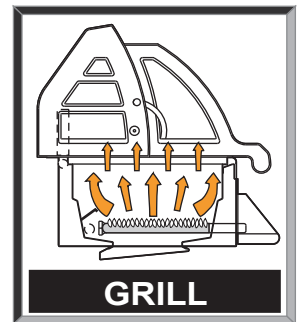

Figure 14a
- The powerful **Main burners** deliver the middle and high range of temperatures desired for traditional barbecuing. This includes searing and finishing steaks, hamburgers, pork chops and the like, or grilling chicken parts, sausages, or kebabs with more moderate heat. (Fig. 14a)